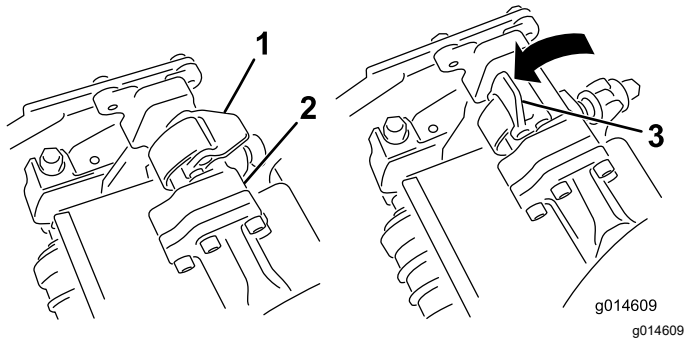
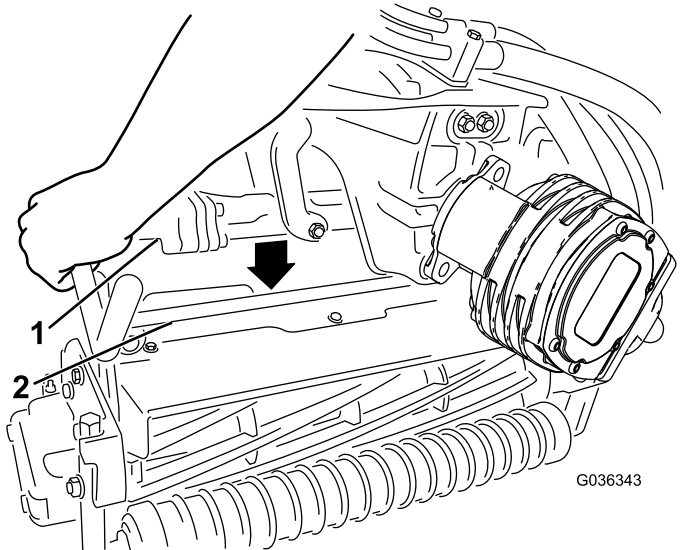

Figure 56
Figure 57
4. With the latches on the suspension-arm bar pointing up (i.e., open) (Figure 56), push the suspension arm down so that the bar fits over the bar across the top of the cutting unit (Figure 57).
5. Close the latches down and around the cutting-unit bar and lock them in place (Figure 56).
5. Open the latches on the suspension-arm bar of the cutting unit you are removing (Figure 56).